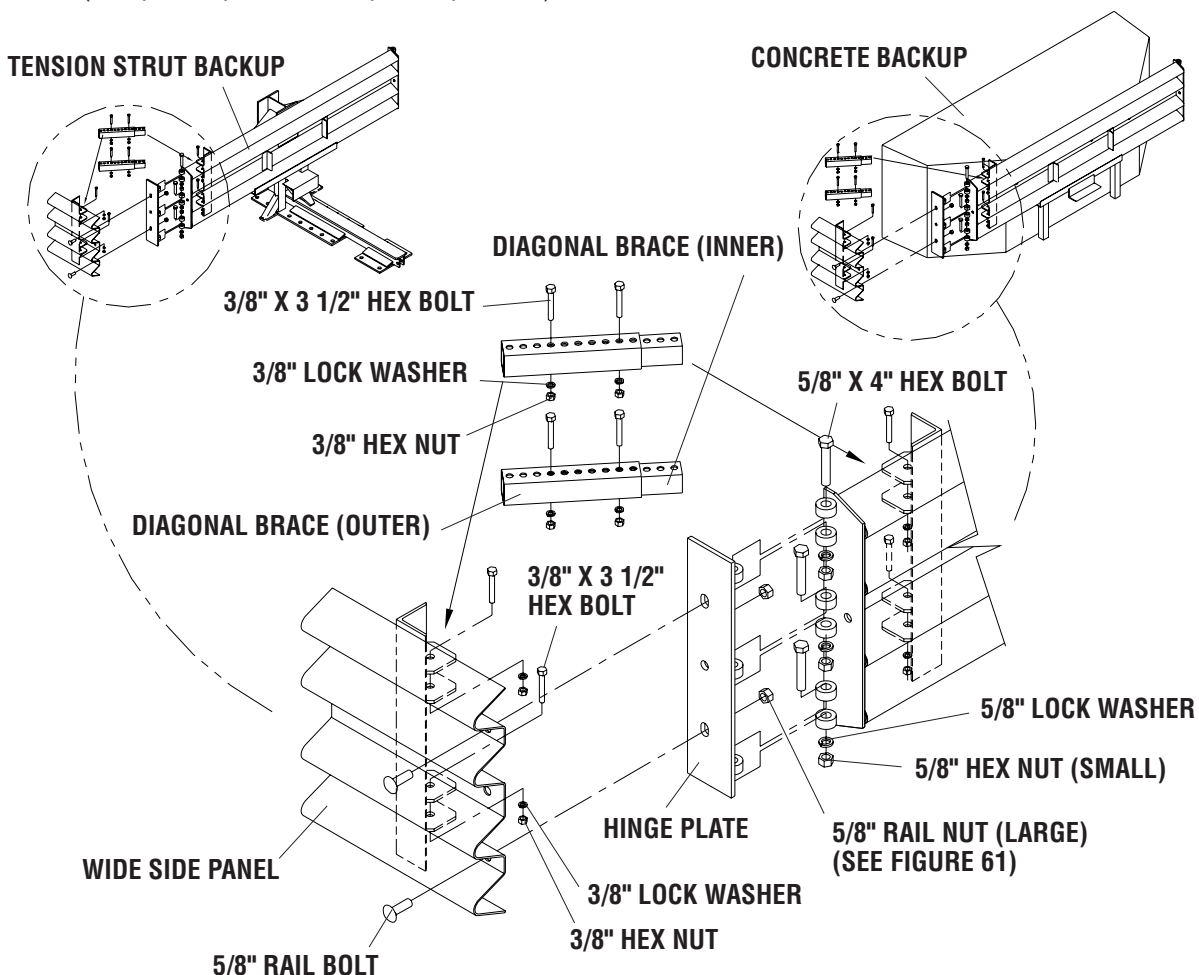

Figure 53
- Attach transition panel or side panel assembly to side of backup using 5/8" hex bolt, 5/8" lock washer & 5/8" hex nut (three places each side of backup). See Figure 53.
- Secure each diagonal brace with 3/8" hex bolt, 3/8" lock washer & 3/8" hex nut (two places per brace) as shown in Figure 53.